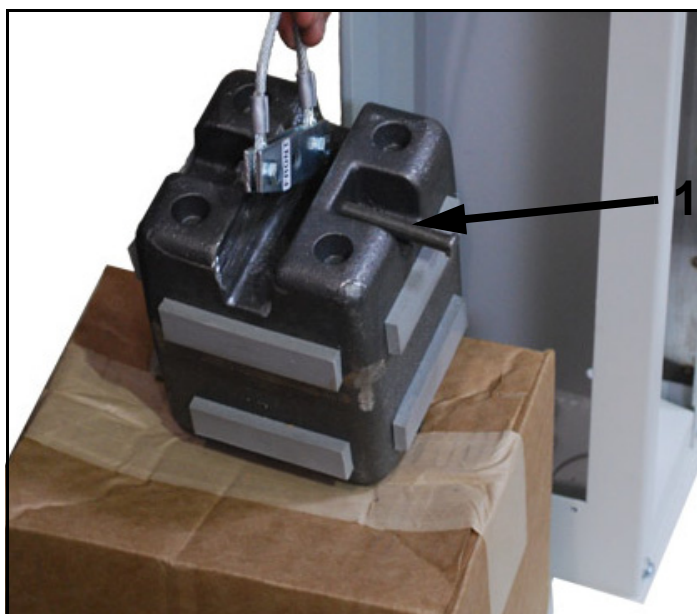

Figure 6-5. Clevis Pin
- 7 Unscrew and remove the Clevis pin (1 in Figure 6-5) from the counterweight block.